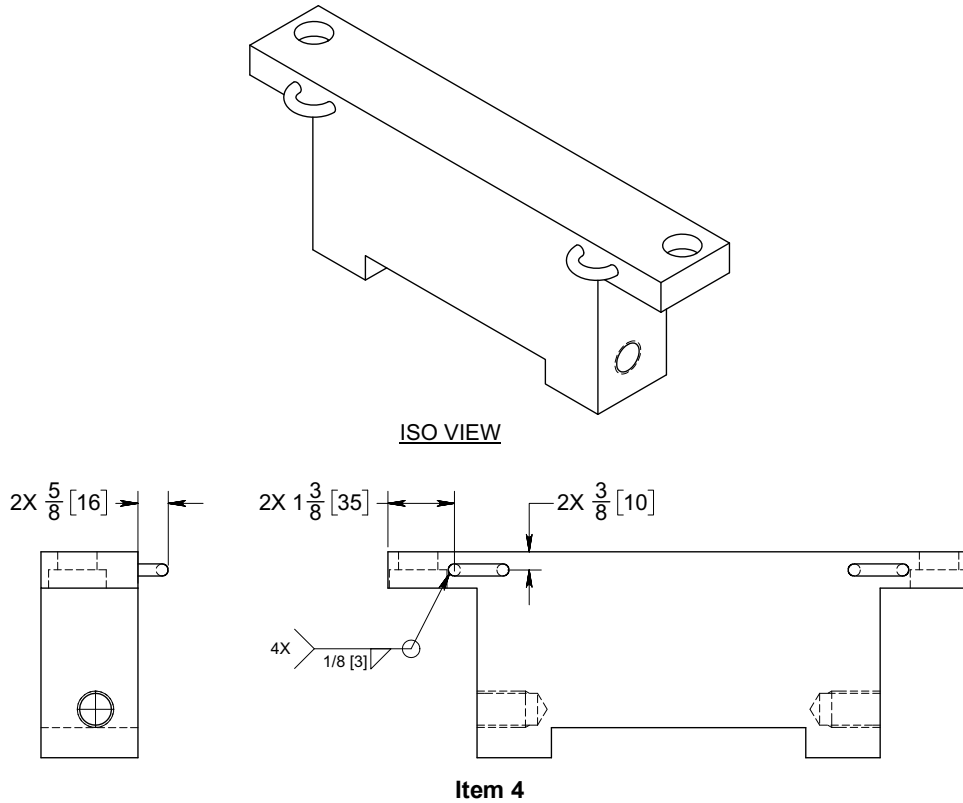

Figure 4: Lower guard mount modification
6. Weld two half chain links to the (Item 4) lower guard mount as shown in Figure 4.